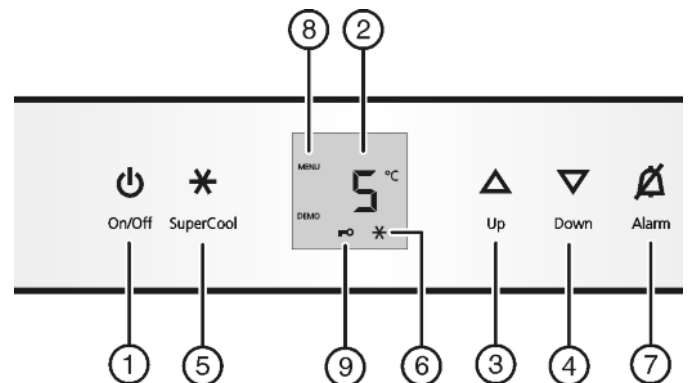

Fig. 2
- ▶ Press On/Off button *Fig. 2 (1)*.
- ▶ Activate setting mode: Press the SuperCool button *Fig. 2 (5)* for around 5 seconds.
- ▶ Briefly press the SuperCool button *Fig. 2 (5)* to confirm. When **cl** is indicated in the display:
- ▶ to activate the child lock, briefly press the SuperCool button *Fig. 2 (5)*.
- ▷ The child lock symbol *Fig. 2 (9)* shines. **c** flashes in the display. When **cl** is indicated in the display:
- ▶ to deactivate the child lock, briefly press the SuperCool button *Fig. 2 (5)*.
- ▷ The child lock symbol *Fig. 2 (9)* goes out. **c** flashes in the display.
- ▶ To deactivate the set-up mode: press On/Off button *Fig. 2 (1)*.
- ▶ Press alarm button *Fig. 2 (7)*.
- ▶ For a higher temperature setting: press Up button *Fig. 2 (3)*.
- ▶ For a lower temperature setting: press Down button *Fig. 2 (4)*.
- ▶ Briefly press SuperCool button *Fig. 2 (5)*.
- ▷ The SuperCool symbol *Fig. 2 (6)* lights up in the display.
- ▷ The SuperCool symbol *Fig. 2 (6)* goes out in the display.